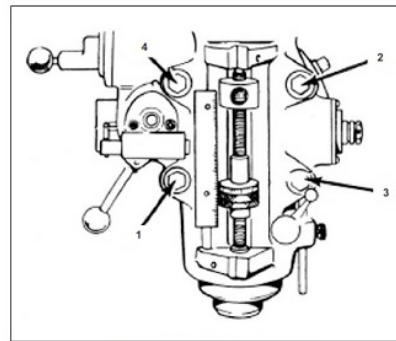

Figure 1.4 - Tightening Sequence
6. Tighten bolts first to 25 lb-ft torque in a diagonal sequence as noted in Figure 1.4, then to 50 lb-ft. Over tightening could cause bind in the quill movement.